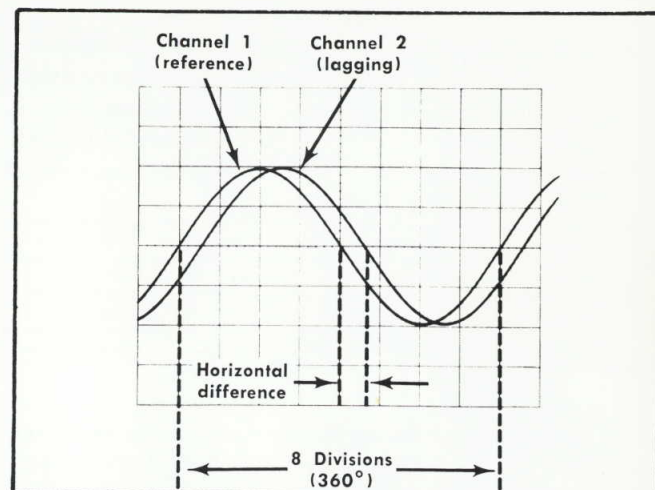
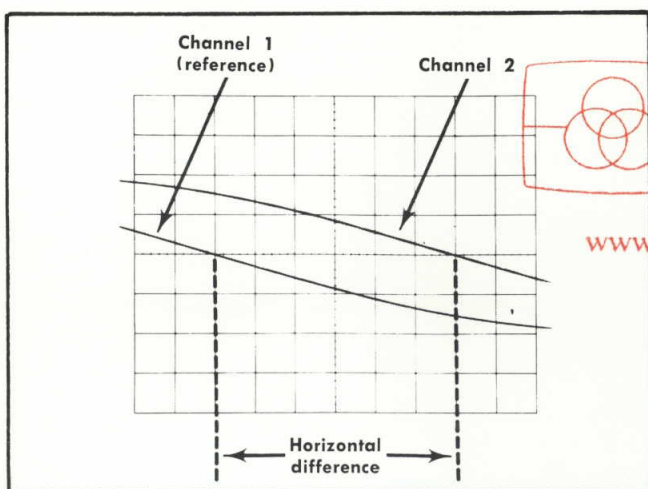

Fig. 2-7. Measuring phase difference.
Fig. 2-8. High-resolution phase-difference measurement with increased sweep rate.
9. Turn the Variable Seconds/Div control until one cycle of the reference signal (Channel 1) occupies exactly eight divisions between the second and tenth vertical lines of the graticule (see Fig. 2-7). Each division of the graticule represents 45° of the cycle ($360^\circ + 8\text{ divisions} = 45^\circ/\text{division}$). The sweep rate can be stated in terms of degrees as $45^\circ/\text{division}$.
EXAMPLE: Assume a horizontal difference of 0.6 division with a sweep rate of $45^\circ/\text{division}$ as shown in Fig. 2-7.
EXAMPLE: If the sweep rate were increased 10 times with the magnifier, the magnified sweep rate would be $45^\circ/\text{division} \div 10 = 4.5^\circ/\text{division}$. Fig. 2-8 shows the same signals as used in Fig. 2-7, but with the SWP MAG button pushed in. With a horizontal difference of six divisions, the phase difference is: